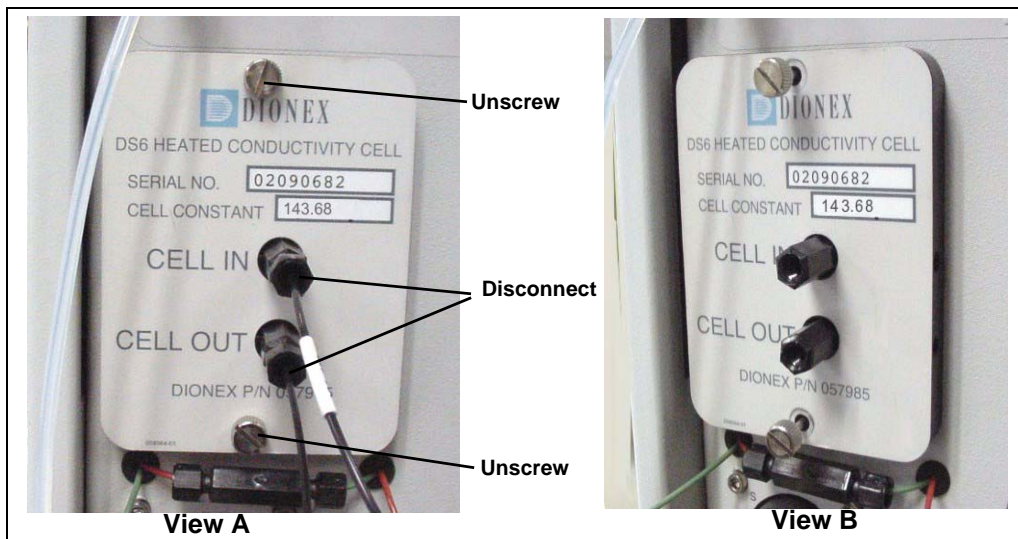

Figure 5-9. Removing the Cell Front Cover
2. Open the front door and disconnect the tubing from the **CELL IN** and **CELL OUT** fittings (see Figure 5-9, View A). Loosen the two screws on the cell front cover. The screws remain attached (see Figure 5-9, View B).